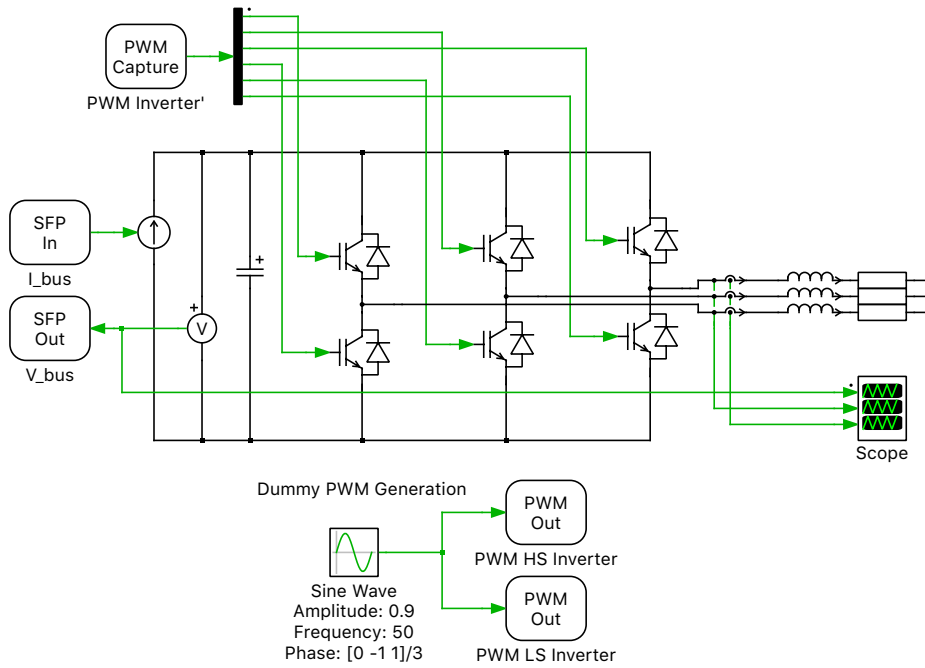

Figure 7: Inverter subsystem after splitting using SFP In/Out ports
- 2 Inside the “Inverter” subsystem, keep the inverter-side circuit and its “dummy PWM Generation”, shown in Fig. 7. The DC-link capacitor is included in the inverter side. Since the capacitor voltage is a state variable, it is measured with a Voltmeter and sent out through an SFP Out block to the rectifier side. The current coming from the rectifier stage is introduced with SFP In block and modeled using a Current Source (Controlled) block in parallel.